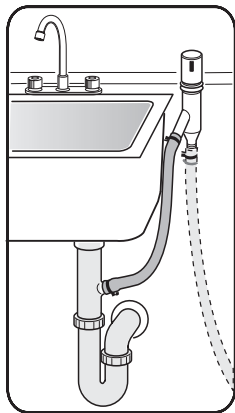

Figure 22
3. To the undersink dishwasher drain connection through an air gap, as shown in Figure 22.